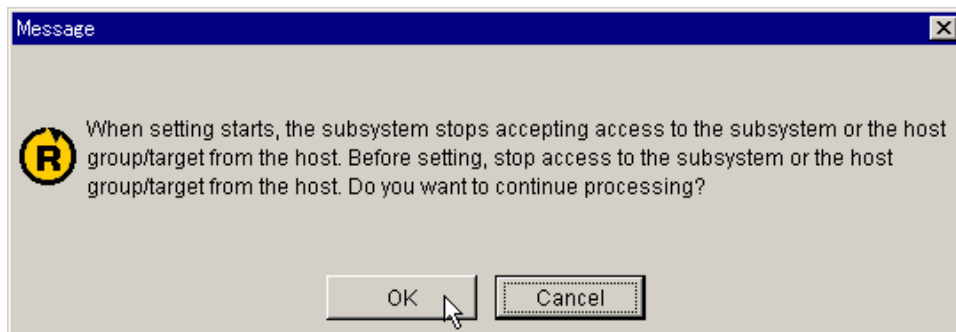

Figure 5.46 Stop Host Access Warning Message (Port or Host Group Operations)
8. Click **Apply**. If you are setting ports or host groups, Figure 5.46 displays. Stop host access to the subsystem or host group, and then click **OK** to continue.